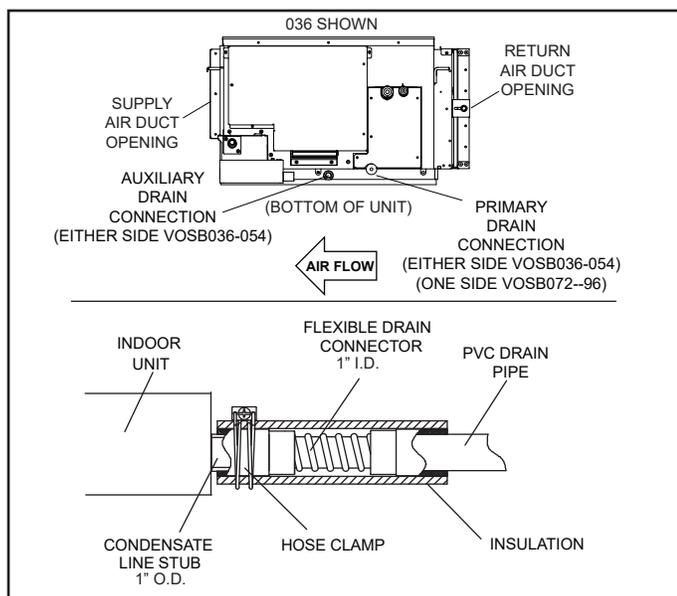

Figure 9. Condensate Drain Connection
1. Use the provided hose clamp to secure the provided flexible condensate drain connector and insulating sleeve to the drain line stub on the side of the indoor unit. See Figure 9. **NOTE** - Take care not to over-tighten the hose clamps this may damage the drain line stub.